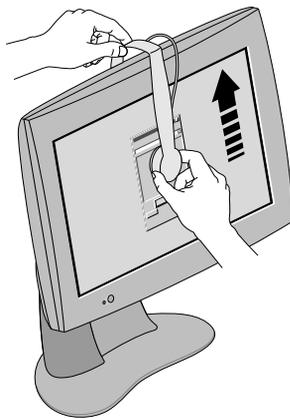

Figure 1-11 Remove Sensor
5. Remove the sensor with both hands, as shown in Figure 1-11.